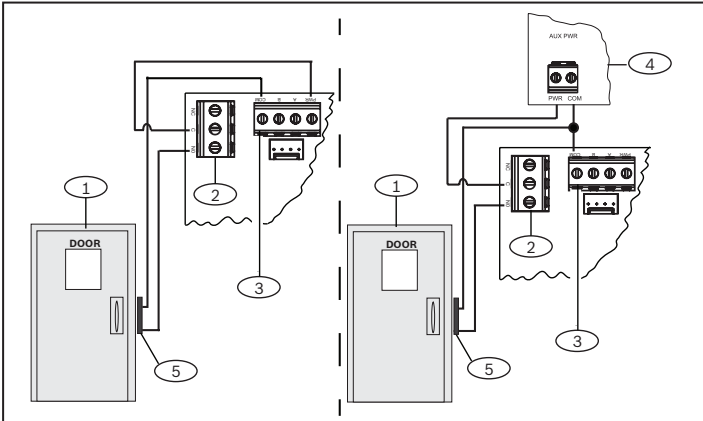

Figure 3.6: Wiring the door strike to the B901
- Common (C). For 12/24 VDC strikes, provide input power here from the power supply. Refer to Figure 3.6.
- Normally closed (NC). For door strikes that require an interruption of power to open. Connect the positive side of the door strike to the NC terminal. Refer to Figure 3.6.
- Normally open (NO). For door strikes that require power to open. Connect the positive side of the door strike to the NO terminal. Refer to Figure 3.6.